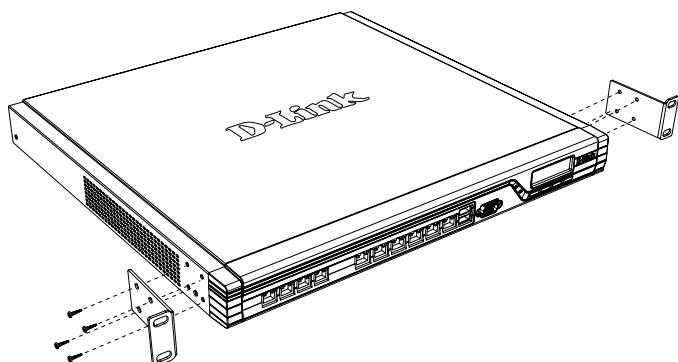

Figure 6. Attaching Rack Mount Brackets
1. Attach the mounting brackets to each side of the chassis as shown in figure 6 and secure them with the provided screws.